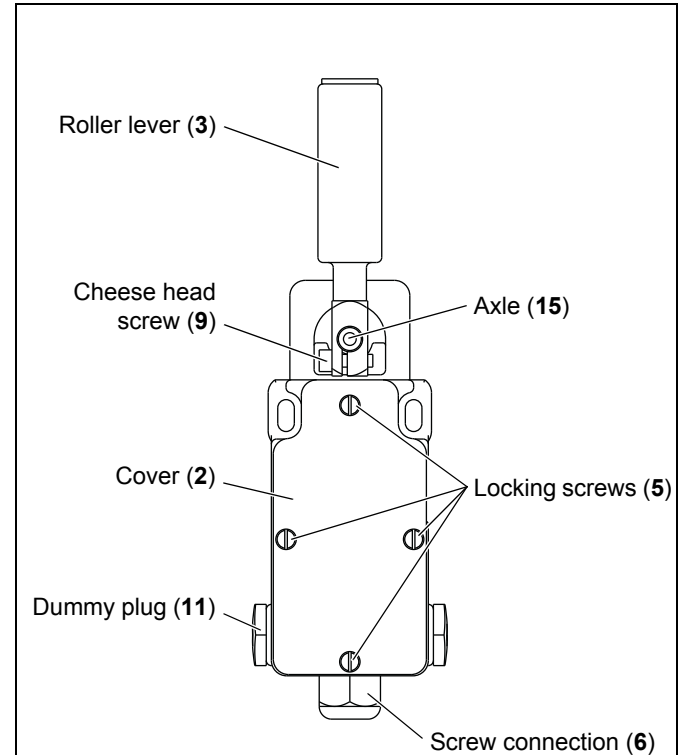

Fig. 7-1: Replacing the roller lever
6. Check to see if the switching elements (7) switch simultaneously by actuating the roller level (3) (*siehe Abbildung 7-1, Seite 19*).